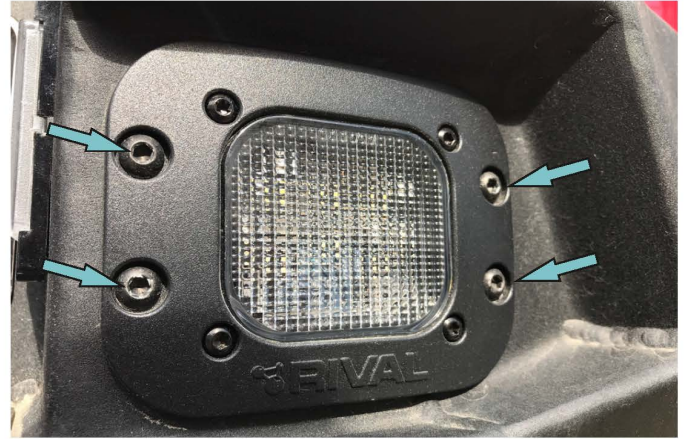

Fig. 26
25. Install LED lights or Lamp plug (item 16), using screws M6, washers 6 and nuts M6 (item A, E, I) (Fig.26).